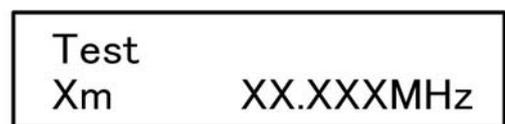

Figure16 : Shown on LCD is under Test mode. The frequency shown is the one used at our factory.
While pressing ②50M button, press ①POWER button. You will see Figure15 first on LCD and then will see Figure16. Now your controller is in the Test mode. See [Figure15、 Figure16]
Figure15: When you turn on the controller, you will see above. Model number, software version, ROM version, and available bands appear. In some seconds information will switch to as Figure 16.